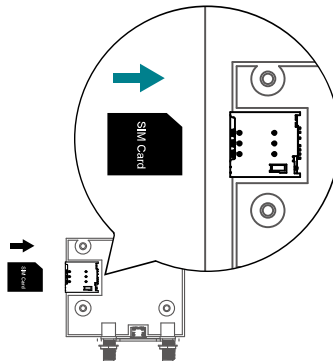

Figure 4-8. SIM Card Insertion.
- 2) Insert a 3G/4G Micro SIM Card in the socket, make sure the gold contacts are facing down and the notch is in the upper right corner. Refer to the following figure 4-8.